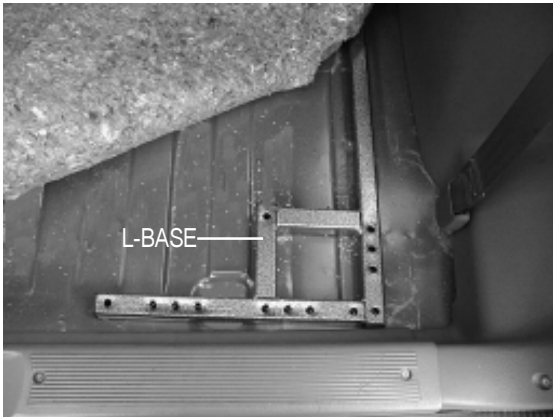

FIGURE 9.
- Position the lift as close to the rear as possible. See figure 9.